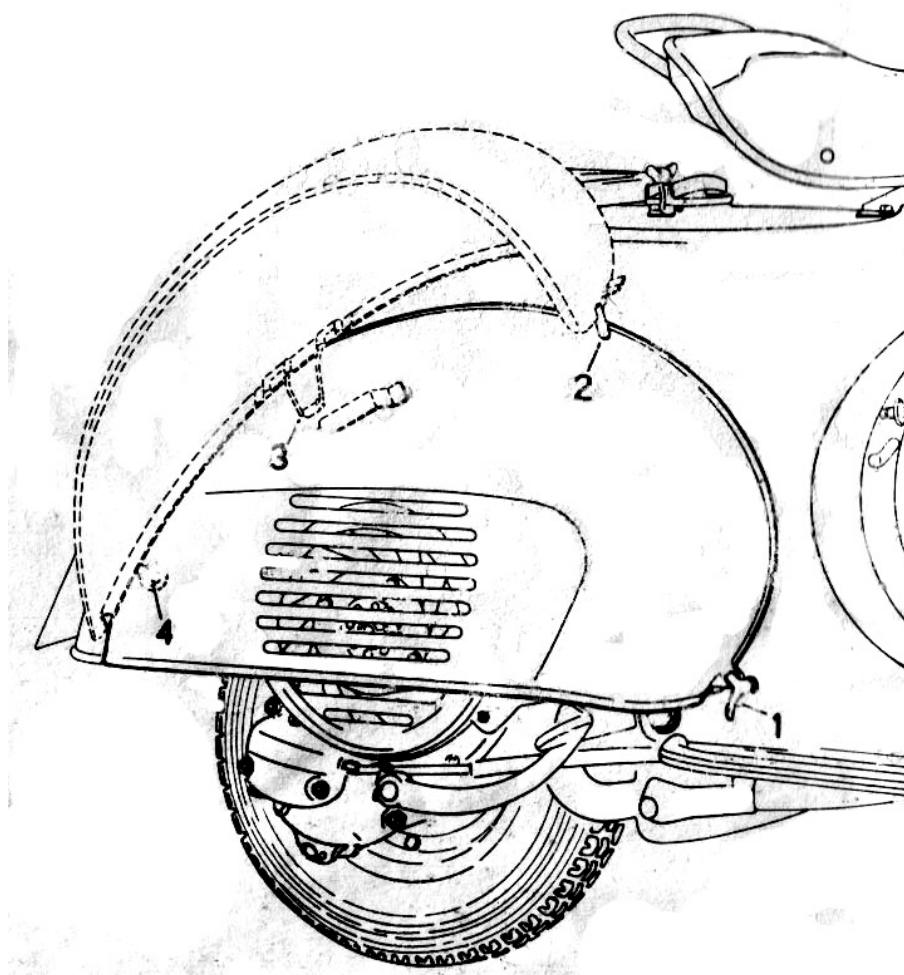

Fig. 16 - Engine bonnet removal
- Pull the lever « 1 » (Fig. 16) and turn it so as to release it from the bonnet. Then move the bonnet slightly outwards, until front dowel « 2 » disengages from the hole on the frame.